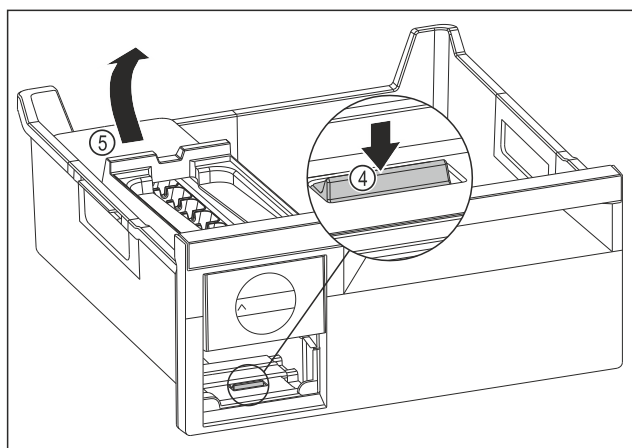

Fig. 183
- ▶ Removing the EasyTwist-Ice body: Use your finger to press the tab Fig. 183 (4) downward while at the same time lifting the EasyTwist-Ice body Fig. 183 (5) from behind with the other hand.